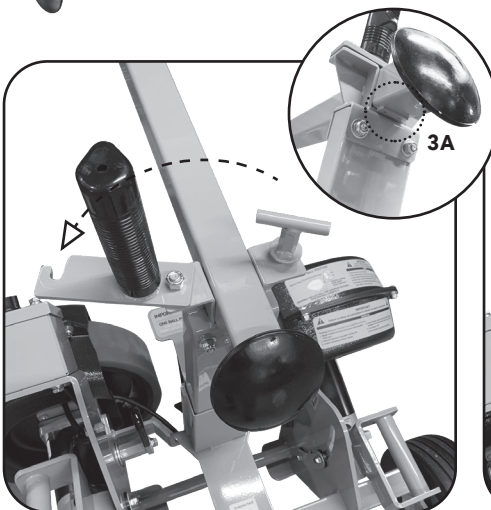

Figure 3 Open latch to insert snapping leg support. Snapping leg should rest on stopper (3A).
2. Open rear leg support latch and insert rear leg support (See Figure 3).